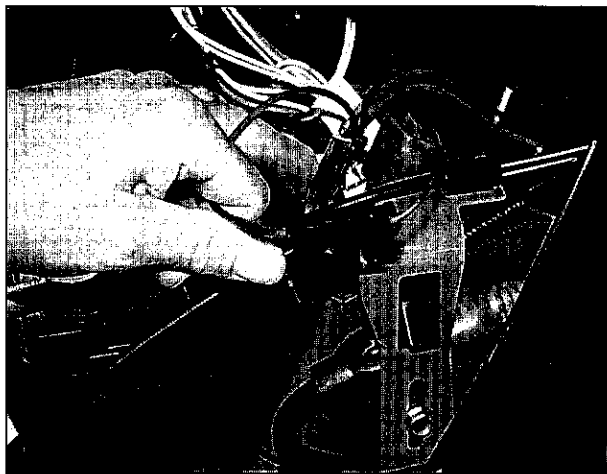

Fig. 35
3. Test for continuity between the inverter case and the engine frame, Fig. 35.